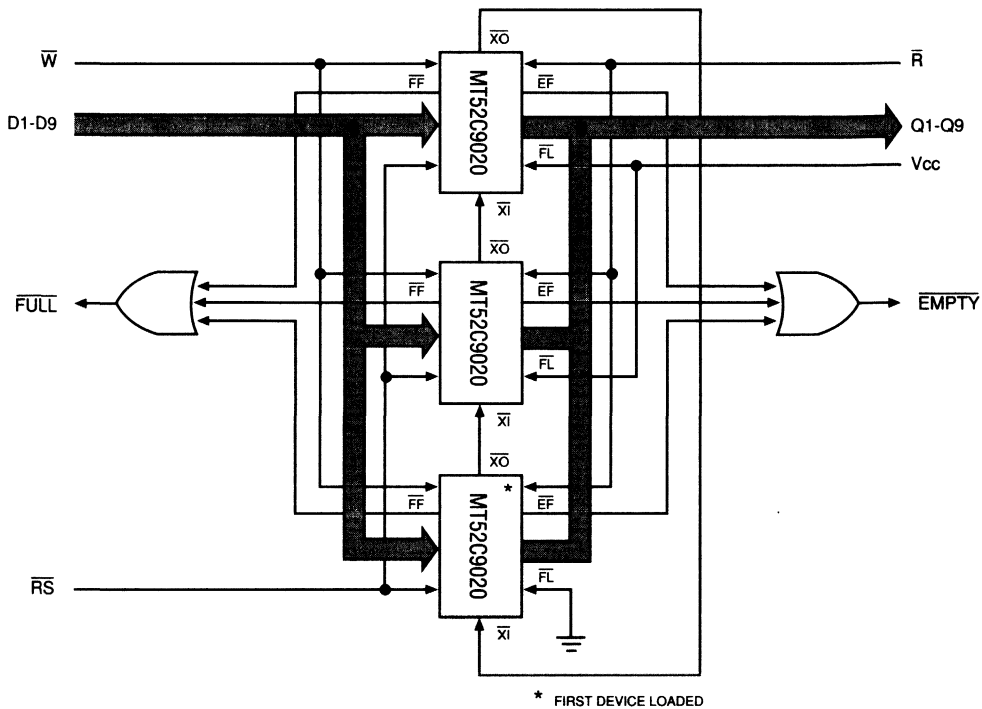

Figure 1
The FIFO word width can be expanded, in increments of 9 bits, using either the STAND ALONE or groups of EXPANDED DEPTH mode FIFOs. Expanded width operation is achieved by tying devices together with all control lines (\bar{W} , R , etc.) in common. The flags are monitored from one device or one expanded-depth group (Figure 1) when expanding depth and width.
Multiple MT52C9020s may be cascaded to expand the depth of the FIFO buffer. Three pins are used to expand the memory depth, \bar{X}_i , \bar{X}_o /(HF) and \bar{F}_L /(RT). Figure 1 illustrates a typical three-device expansion. The DEPTH EXPANSION mode is entered during a RESET cycle, by tying the \bar{X}_o /(HF) pin of each device to the \bar{X}_i pin of the next device in the chain. The first device to be loaded will have its \bar{F}_L /(RT) pin grounded. The remaining devices in the chain will have \bar{F}_L /(RT) tied HIGH. During RESET cycle, \bar{X}_o /(HF) of each device is held HIGH, disabling reads and